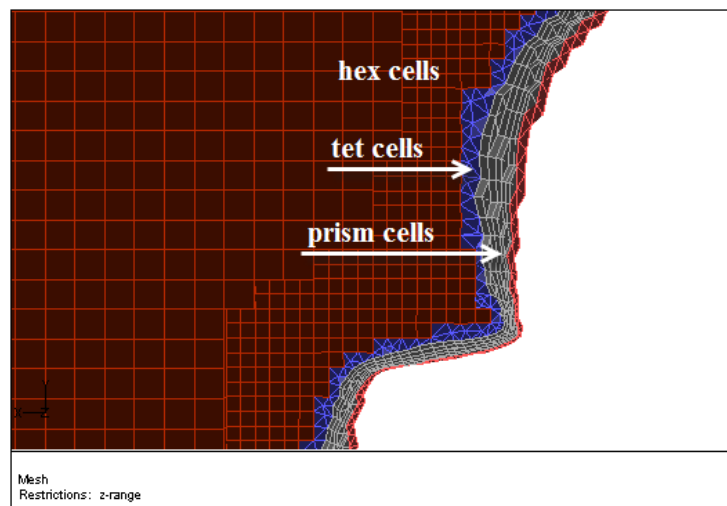

Figure 6.6: Hexcore Mesh Upto Domain Boundaries—Zoomed View
- (m) Zoom in to the region shown in Figure 6.6.
In Figure 6.6, you can see that the mesh on the boundaries is made up of quad cells, except near the sedan.